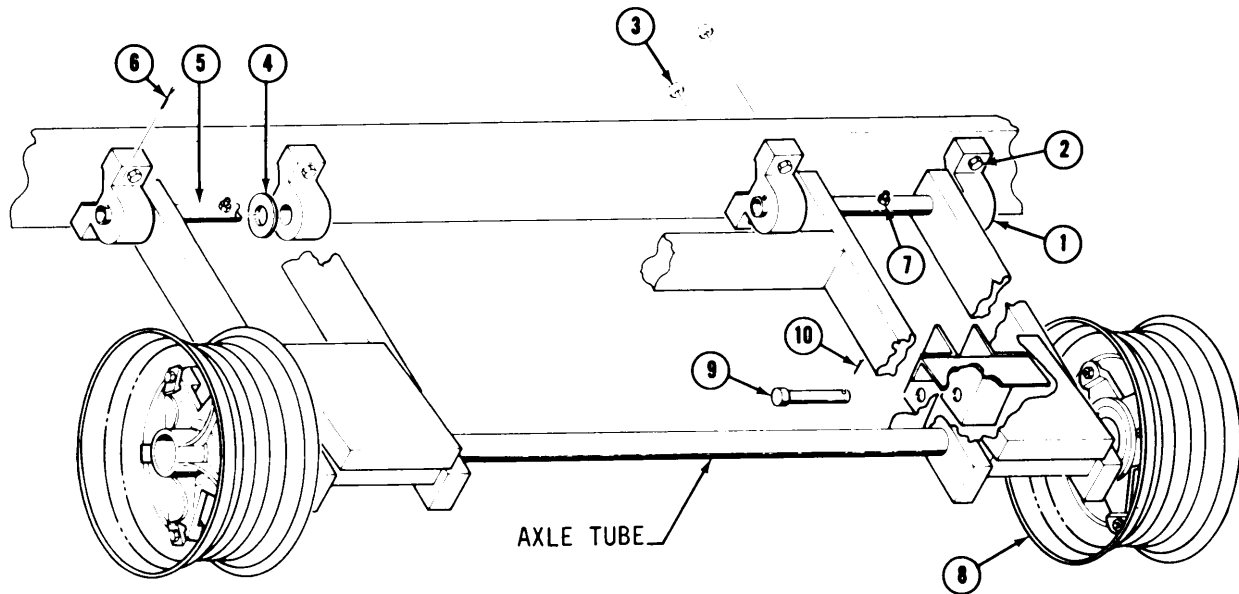

Figure 5-6. Undercarriage Assembly
a. Insert pan head screw (2) through the center of reflector (1).
b. Thread screw (2) into frame.
c. Tighten screw (2) with a medium, flat tip screwdriver.
5.5.5 Undercarriage Assembly (Fig. 5-6)
d. Remove cotter pins (10) from lower clevis pins (9) holding hydraulic lift cylinders (Fig. 5-6).
e. Slide clevis pins (9) out.
f. Place a 3/4 inch box wrench over locknuts (3).
g. Place a 3/4 inch socket and ratchet over mounting bolts (2).
h. Loosen and remove locknuts (3) and bolts (2).
i. Swing hydraulic lift cylinders (1, Fig. 5-13) clear of the undercarriage assembly (Fig. 5-6) and pull the undercarriage from underneath the ramp.
j. Loosen and remove grease fittings (7, Fig. 5-6) from pivot tube.
k. Remove cotter pins (6) from pivot pins (5).
l. Remove mounting blocks (1) from the ends of pivot pins (5).
m. Slide pivot pins (5) from pivot tubes and remove spacer washers (4).
b. Insert pivot pins (5, Fig. 5-6) through pivot tubes placing spacer washers (4) over the ends of pivot pins.
c. Slide mounting blocks (1) over the ends of pivot pins (5).
d. insert cotter pins (6) through the holes in the ends of pivot pins (5). Secure cotter pins.
f. Align the holes in mounting blocks (1) with the holes in ramp frame.
g. Insert bolts (2) through the holes.
k. Slide lower clevis pins (9, Fig. 5-6) through cylinder rod mounting brackets (3, Fig. 5-13) and cylinder rod.
l. Insert cotter pins (10, Fig. 5-6) through the holes in the ends of clevis pins (9). Secure cotter pins.